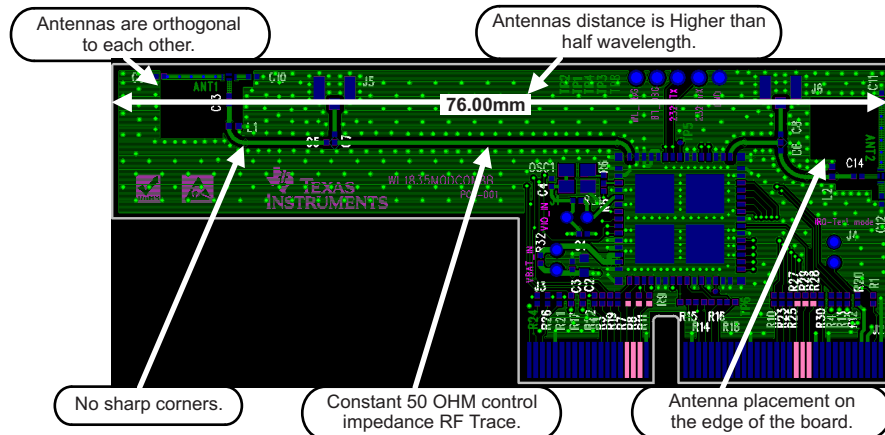

Figure 9-1. Location of Antenna and RF Trace Routing on the TMDXWL1835COM8T Board
Figure 9-1 shows the location of the antenna on the WL1835MODCOM8 board as well as the RF trace routing from the (X)WL1835 module (TI reference design). The TDK chip multilayer antennas are mounted on the board with a specific layout and matching circuit for the radiation test conducted in FCC, CE, and IC certifications.